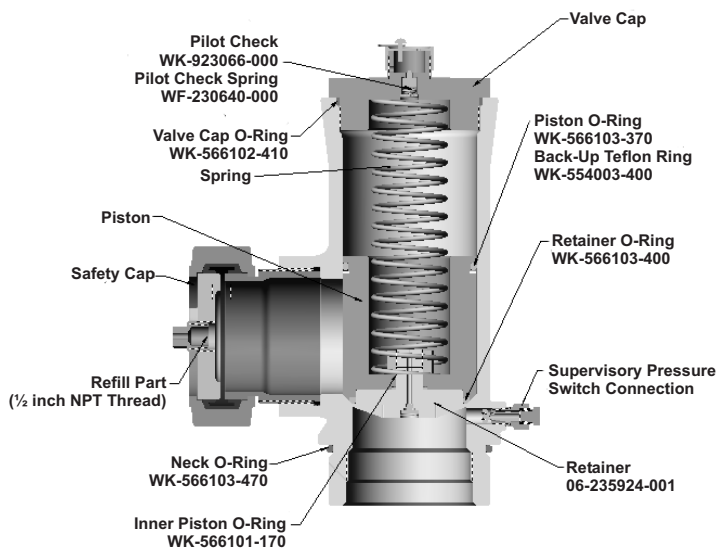

Figure 6-3. 3" Valve Assembly
**Note:** Refer to Figure 6-3 for items.
**Note:** Refer to Figure 6-3.
1. Install the O-ring (Item 2 in Figure 6-3) in the piston groove.
**Make certain that the Teflon® back-up ring is below the O-ring as shown in Figure 6-3.**